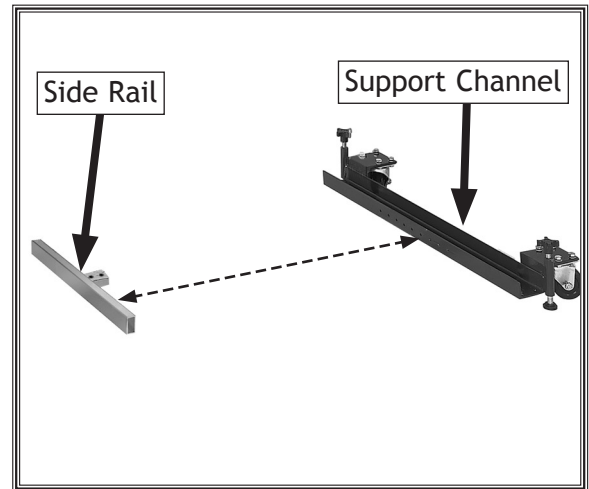

Figure 5. Measuring distance between side rail and support channel (mobile base and extension table not shown for clarity).
8. Measure the distance between the outer edge of the side rail and the inside edge of the side channel, as shown in **Figure 5**.